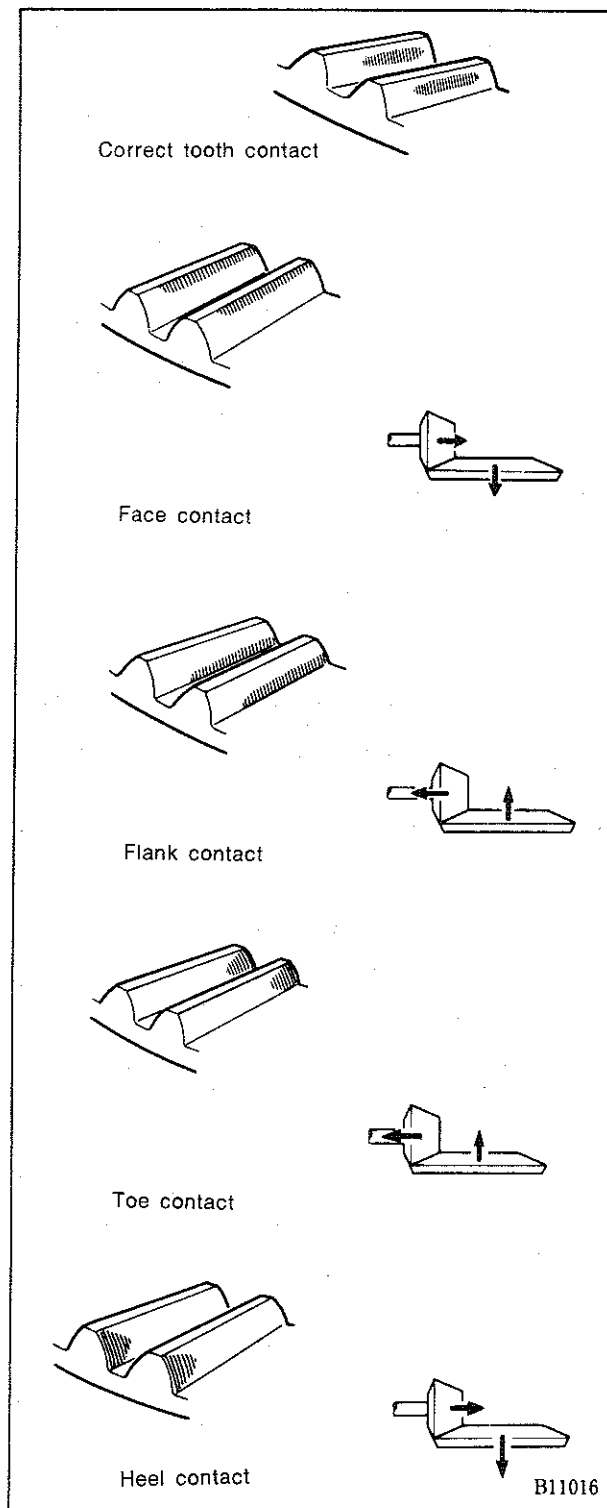

Fig. 34—Gear tooth contact pattern
(1) Apply a thin film of marking compound on both the drive and coast side of the drive gear teeth. Rotate the drive gear one complete revolution in both directions while levering with a round bar or screwdriver between the carrier and differential housing flange. This action creates a load and produces a distinct tooth contact pattern on the drive gear teeth.
(2) Observe the contact pattern on the drive gear teeth and compare with those in Fig. 34 to determine if the pattern is properly located. If pinion depth of mesh and drive gear backlash are correct, the heaviest most distinct part of the contact pattern should be centred on both drive and coast sides of the drive gear teeth.
(3) If the tooth contact pattern resembles Face contact or Heel contact (refer Fig. 34), the thickness of the spacer between the pinion rear bearing cup and carrier should be increased to move the pinion towards the drive gear centre line. The drive gear must be moved to maintain the specified backlash.
(4) If the tooth contact pattern resembles Flank contact or Toe contact, the thickness of the spacer between the pinion rear bearing cup and carrier should be decreased to move the pinion away from the drive gear centre line. The drive gear must be moved to maintain the specified backlash.
(5) If the correct tooth contact pattern cannot be obtained with the described adjustments, the gear teeth are extensively worn and both drive gear and pinion must be replaced.
(6) When correct tooth contact pattern is obtained, clean marking compound from tooth surfaces.
(7) Clean carrier and cover gasket surfaces, install the cover with a new gasket and tighten cover bolts to the specified torque.
(8) Install rear axle assembly as previously described.
(9) Install axle drive shafts as previously described.
(10) Fill rear axle assembly with correct grade and quantity of lubricant.